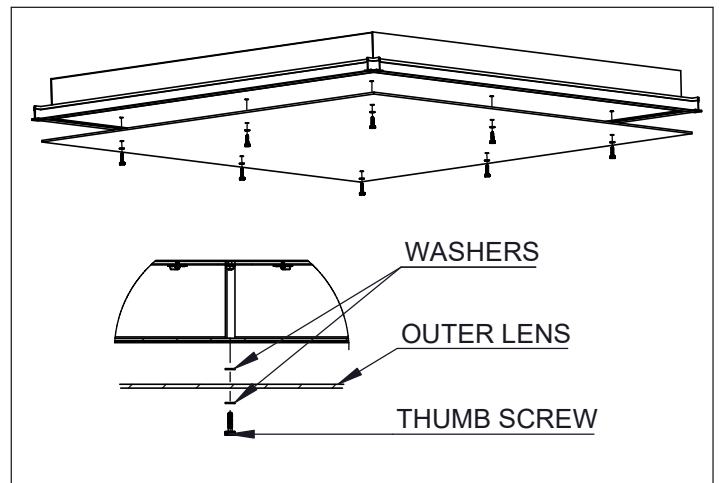

Figure 4
4. Fasten Outer Lens to Housing using Thumb Screws and Washers. (Fig. 4)